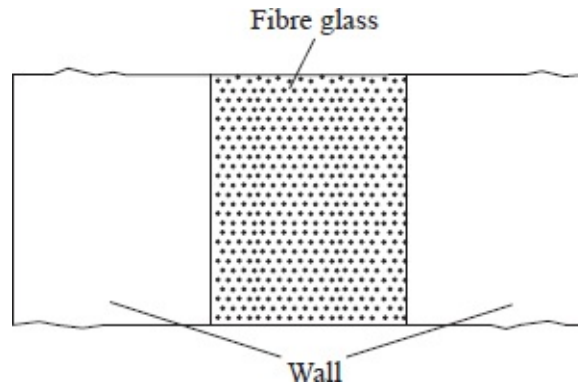

Fig. 7.14: Double wall insulation
5. In modern buildings where the desired inside temperature is to be stabilised, double walls are constructed. Materials that are good insulators of heat and can trap air and are put between the walls. Examples of such materials are glass wool (fibre glass) and foam plastic, see figure 7.14.